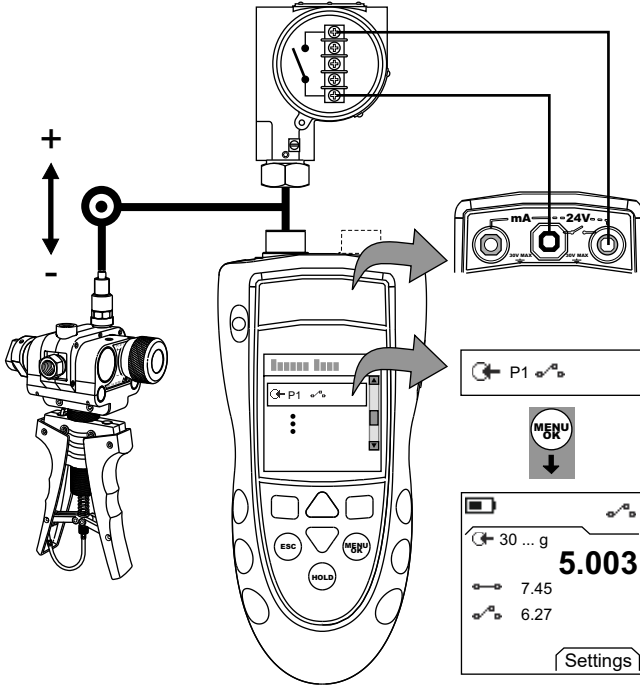

Figure 4: Example Configuration - Switch Test
- Connect the instrument (Figure 4) and, if necessary, adjust the *Set Up* (Table 1).